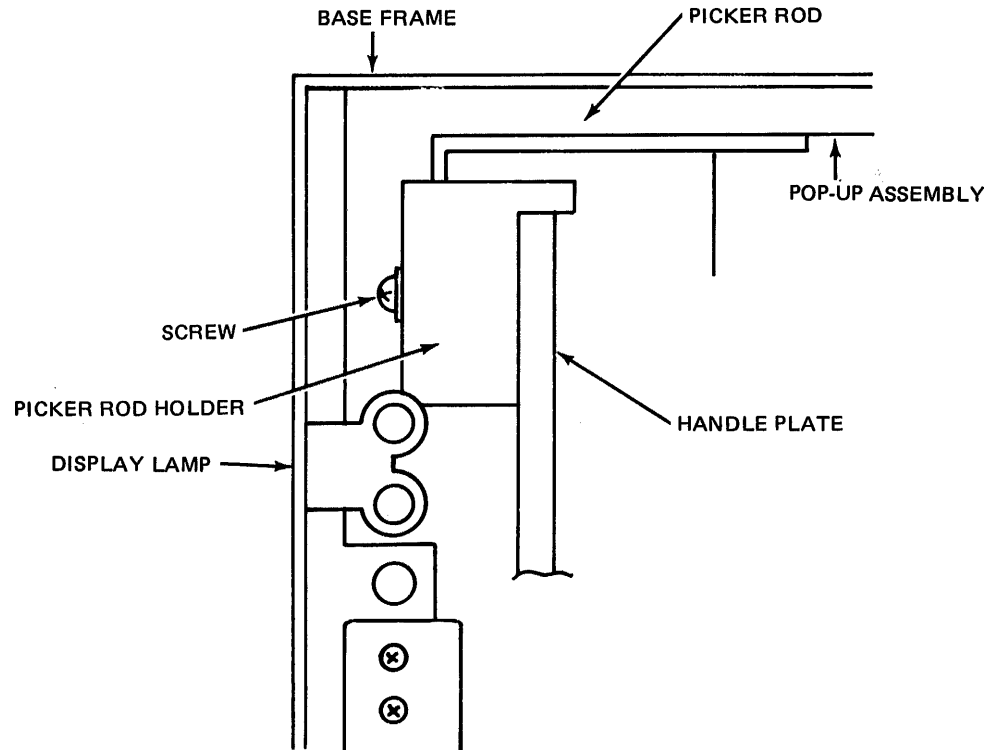

Figure 4-17 Adjusting the Picker Rod
- b. Adjust the clearance between the picker rod and the picker rod holder to 0.04 to 0.06 inches (1 to 1.5 mm) (see Figure 4-17).